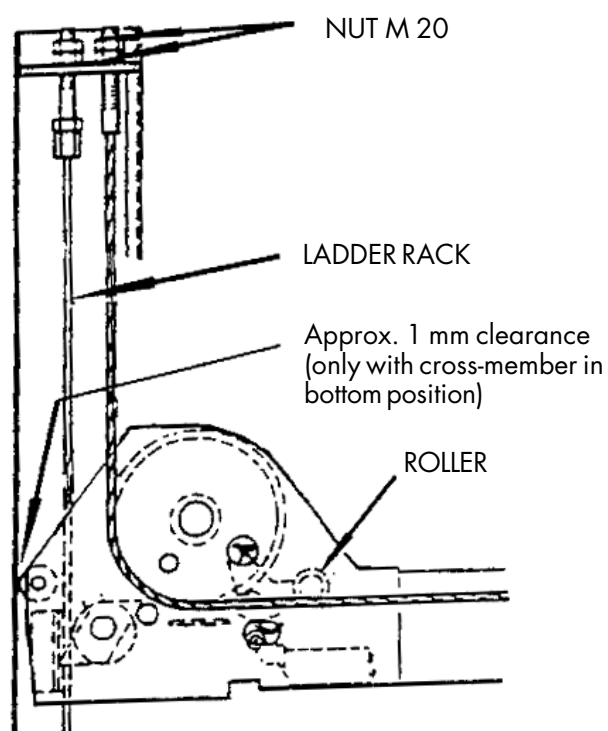

Fig. 14
- Whether there is clearance of 1mm between the roller on the end of the cross-member and the inside of the column (Fig. 14).